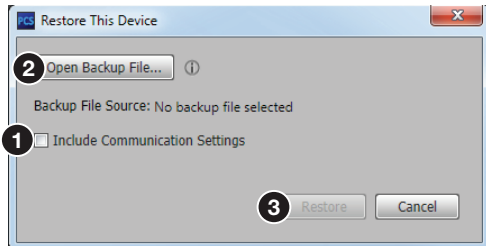

Figure 41. Restore This Device Dialog Box
3. If applicable click the **Include Communication Settings** checkbox (see figure 41, ①) to include the previously saved communication settings (IP address, subnet mask, default gateway, and DNS server) in the file restoration process.
7. On the **Restore This Device** dialog box, click **Restore** (see figure 41, ③) to upload the file to the connected DVS 605 .